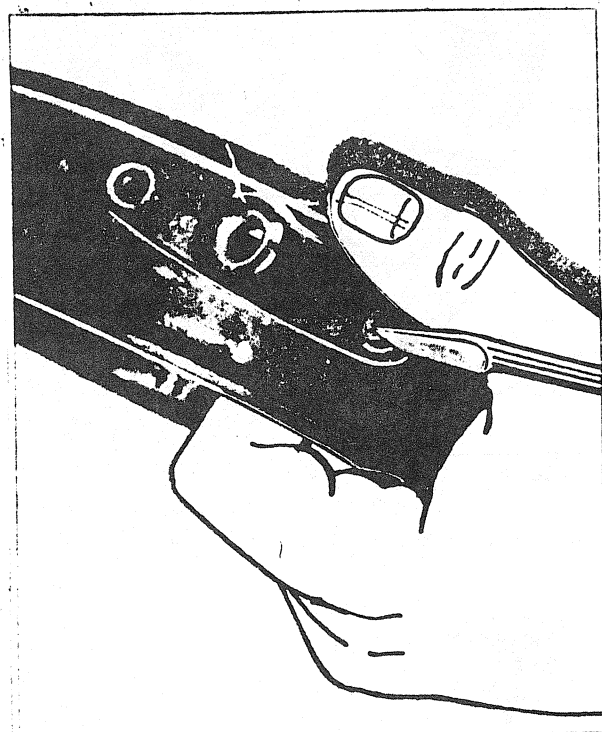

FIGURE 3
- Unscrew the screws (2) on the starter stop and remove the stop. (Fig. 3).